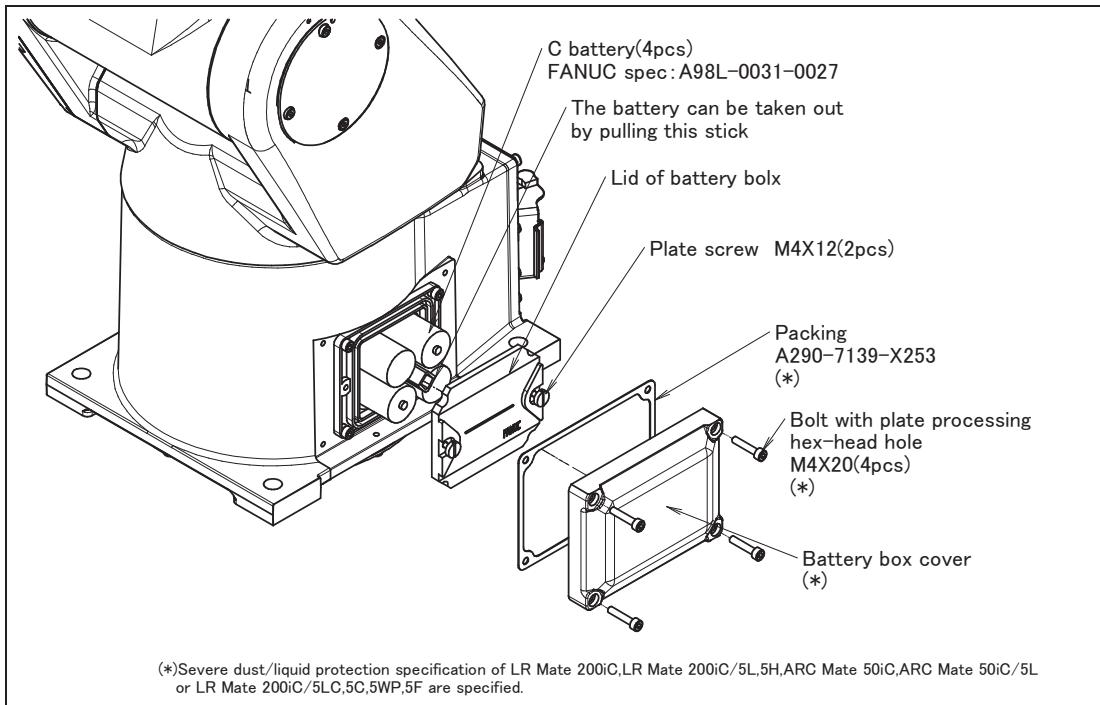

Fig. 7.2.1 (a) Replacing the battery (if built-in batteries are specified)
- 2 When severe dust/liquid protection or 5LC,5C,5WP,5F is selected, remove the battery case cap.(Fig.7.2.1)